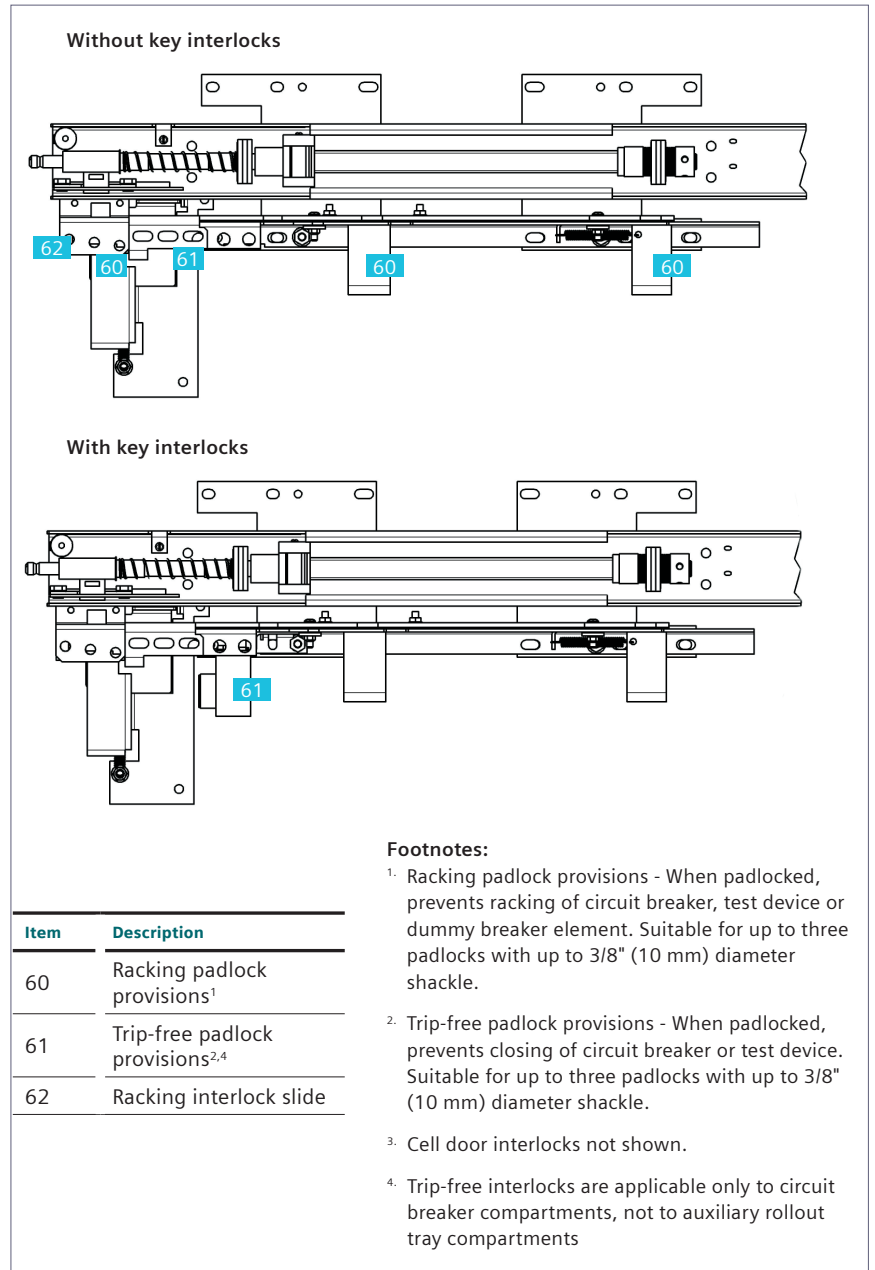

Figure 48: Padlock and key interlock provisions³
The closed circuit breaker racking interlock is designed to prevent a circuit breaker from being racked from test to connect and vice versa with the primary contacts closed. Only an open circuit breaker is to be moved between these positions (refer to Figure 48: Padlock and key interlock provisions³).
The trip-free interlock slide has angle-shaped members (refer to Figure 48: Padlock and key interlock provisions³, item 60) that project from the right side of the racking mechanism and engage an interlock member from the circuit breaker. The circuit breaker interlock extends down to prevent movement of the trip-free interlock slide with the circuit breaker closed. When engaged, the racking screw is not accessible to the racking crank until the circuit breaker has been opened.
The racking interlock slide (refer to Figure 48: Padlock and key interlock provisions³, item 62) has provisions for three padlocks to prevent engagement of the racking crank to the racking screw. This allows locking of the circuit breaker in DISCONNECT, TEST or CONNECT positions. The padlocks for locking the racking mechanism can only be accessed when the circuit breaker or dummy element is in either the DISCONNECT or TEST position, due to cell door interlocks.
In order to lock the circuit breaker trip-free in either the TEST or CONNECT positions, the circuit breaker must be opened and the trip-free interlock slide assembly pushed forward to lift the trip-free roller on the circuit breaker. This position permits the use of a key interlock (refer to Figure 48: Padlock and key interlock provisions³ on page 80, item 61) or padlocks (up to three) to maintain the mechanism in trip-free position. The racking mechanism can only be accessed when the circuit breaker or dummy element is in either the DISCONNECT or TEST position due to cell door interlocks. The circuit breaker may be removed for servicing while interlocked in the trip-free position.